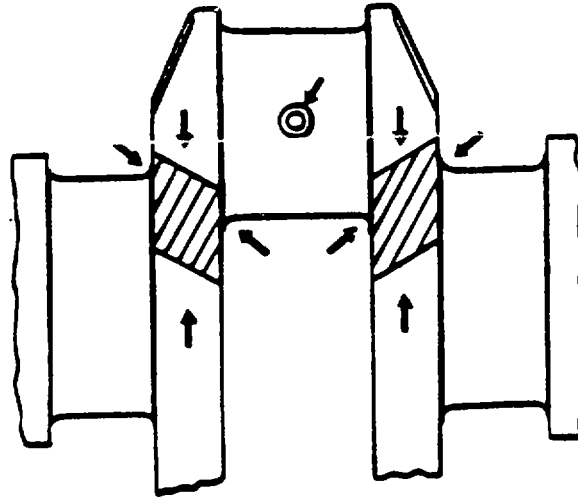

Figure 6-31. Crankshaft Critical Loading Zones.
(4) Used crankshafts sometimes show a certain amount of ridging caused by a groove in upper main bearing shell. Remove ridges before new bearing shells are installed. Slight ridges may be cleaned up with 120 grit emery cloth, followed by 240 grit emery cloth. Rotate crankshaft at intervals to avoid polishing in flat spots. Finally, polish surface with a fine crocus cloth with fuel oil. If grooves cannot be removed in this manner, crankshaft must be reground or replaced.
(5) Inspect surface of crankshaft for evidence of cracks. To be effective, this inspection should be performed using magnetic particle, fluorescent dye penetrant or a similar inspection technique. Demagnetize crankshaft following use of magnetic particle inspections. Inspection must be performed if engine has experienced catastrophic failure such as piston or connecting rod failure. Inspection should also be performed in course of engine overhaul. Replace a crankshaft that is cracked.
(6) Inspect crankshaft for excessive binding or twisting. Certain areas are critical and sustain most of load. These areas are indicated by arrows in Figure 6-31.
(7) Inspect crankshafts for circumferential fillet cracks. Check all fillets for smoothness. Journal fillets should have a 0.130 to 0.160 inch radius.
(8) Inspect crankshaft keyway for evidence of cracks or worn condition.
(9) Inspect crankshaft in area at front and rear oil seal contact surfaces for evidence of roughness or grooving. Slight ridges of more than 0.0002 inch must be removed. Use crocus cloth, dampened with fuel oil. Ridges of more than .0005 inch must be removed with 120 grit emery cloth and finished with 240 grit emery cloth followed by wet crocus cloth.
(10) Excessive wear or grooving on front and rear crankshaft oil seal area may require use of an oil seal sleeve. This sleeve can be pressed on crankshaft. This sleeve provides a replaceable wear surface for lip type oil seal. However, an oversize oil seal must be used with this sleeve.